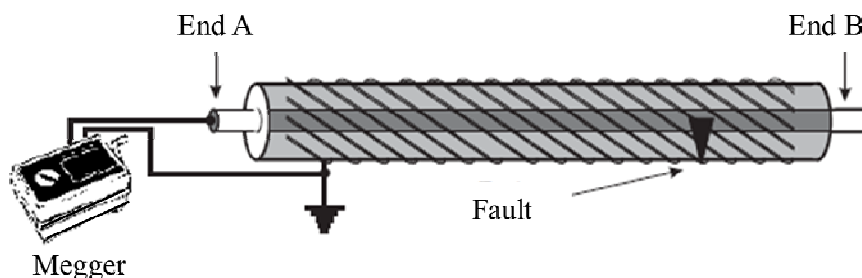

Figure 2: Insulation Resistance test using Megger
2. Connect the megger between the faulted conductor and ground as shown in Fig. 2.